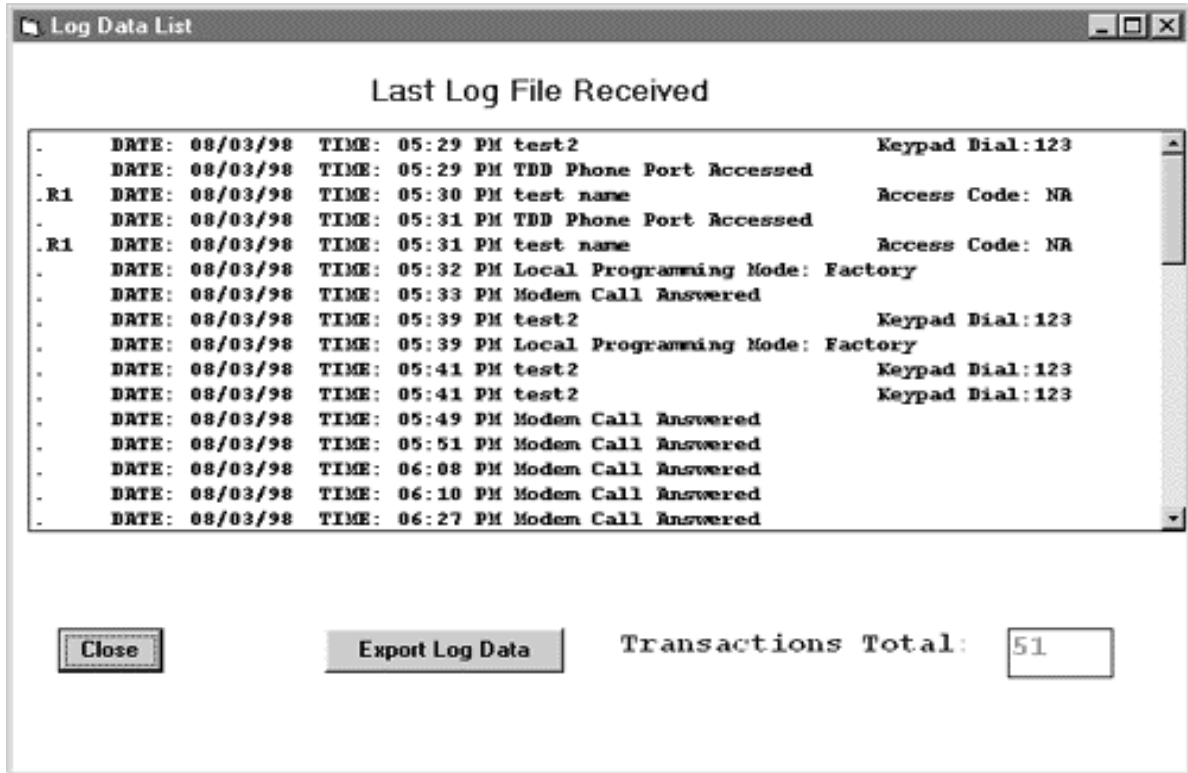

Figure 5.7.3.2
f) The **Log Data List** window will then be displayed (Figure 5.7.3.2). The list retrieved will contain all transactions which have taken place since the Data Log was last accessed.